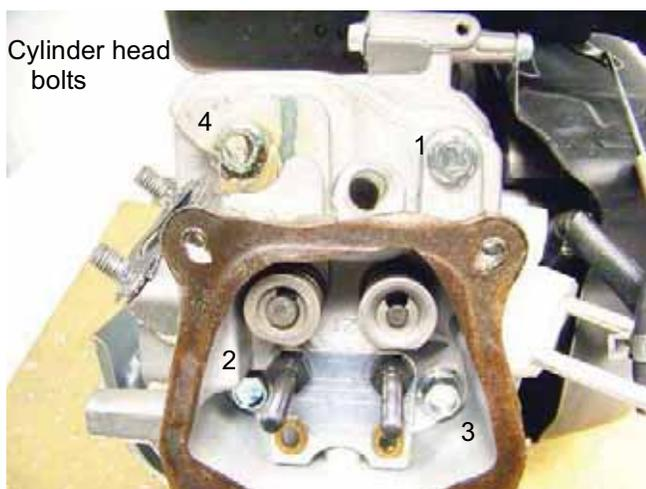

Figure 9.7
5. Remove the cylinder head bolts using a 12mm wrench. See Figure 9.7.